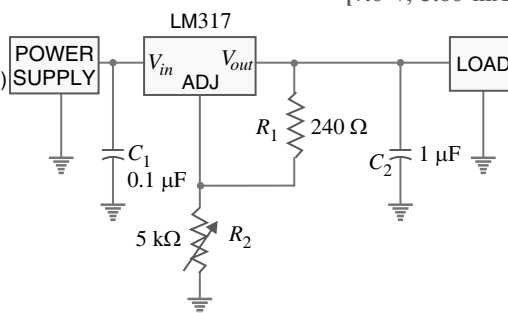

Fig. 15.35
5. If  $R_2$  in Fig. 15.35 is adjusted to 1.68 k $\Omega$ , determine the regulated d.c. output voltage for the LM 317. [10 V]